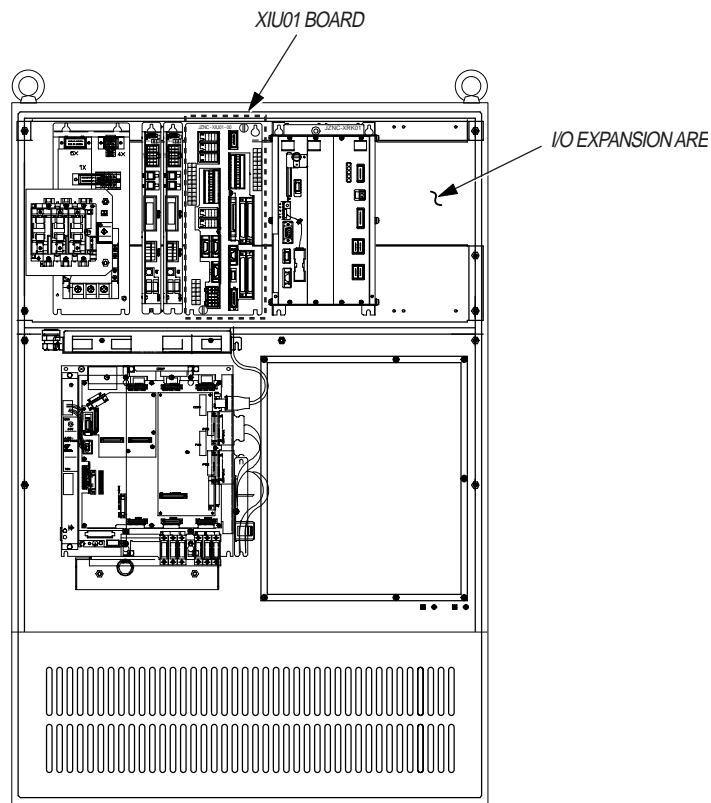

Figure 1-1 XIU01 Board and I/O Expansion Area inside XRC Controller
- a) Open XRC cabinet, connect personal grounding strap, and locate the XIU01 board (see Figure 1-1).